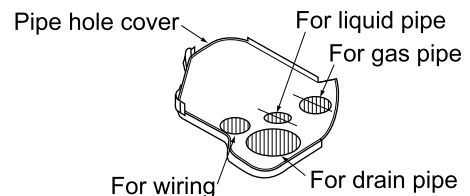

Fig. 24
- Once pipes are rigged, cut the pipe hole cover to size and reattach. Use scissors for cutting. (Refer to Fig. 24)